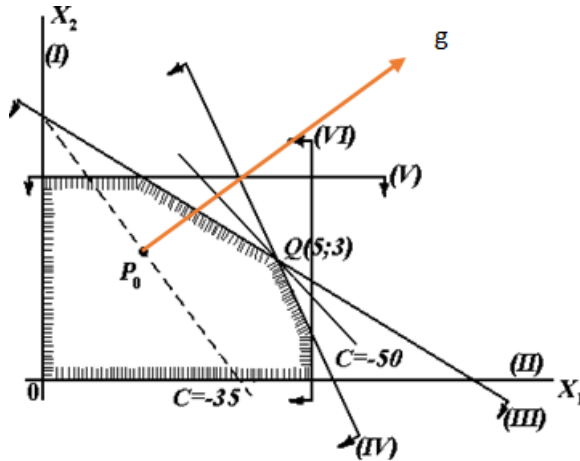

Figure 4.1 - Polygon of solutions.
To solve the task, we will use its geometric interpretation. For this, we introduce the x_1Ox_2 coordinate system. It is known that the locus of points on the plane, the coordinates of which satisfy the system of linear inequalities, form a convex polygon, which we will call *the polygon of solutions* of the system of inequalities. The sides of this polygon are located on straight lines, the equations of which are obtained if the inequality signs are replaced by exact equalities in the inequalities of the system. This polygon itself is the intersection of the half-planes into which each of the indicated lines divides the plane. In our case, these lines are shown in Fig. 4.1.
By changing C , we get a set of parallel lines. Fig. 4.1 shows a straight line for $C = -35$, and the vector g indicates the direction of movement to decrease the values of C . Therefore, it is obvious that the solution will lie on the side or top of the polygon of solutions furthest in the direction of the vector g . Such a vertex is Q formed at the intersection of lines (III) and (IV). The solution of the system of the corresponding equations gives the solution of the task: